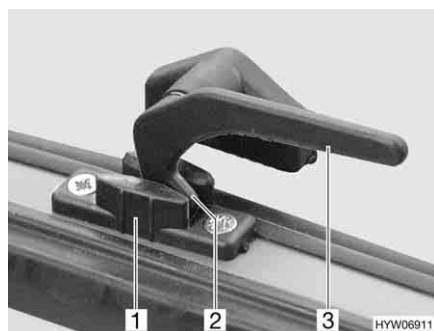

Fig. 66 Catch lever in the "continuous ventilation" position
- "Continuous ventilation" (Fig. 66)
- Turn all catch levers (Fig. 66,3) a quarter turn towards the centre of the skylight.
- Return all catch levers to their initial position. The locking catch (Fig. 66,2) has to be moved into the recess of the skylight lock (Fig. 66,1).